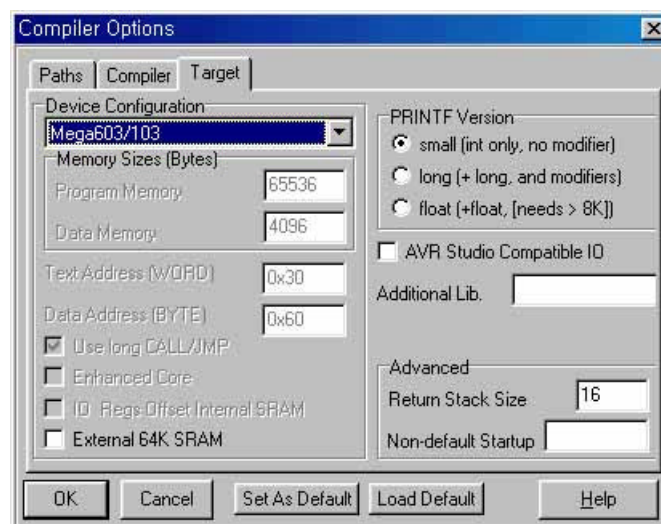

Fig 3.5
③ Click Project → Options → Target. The following screen appears. (Fig 3.5)